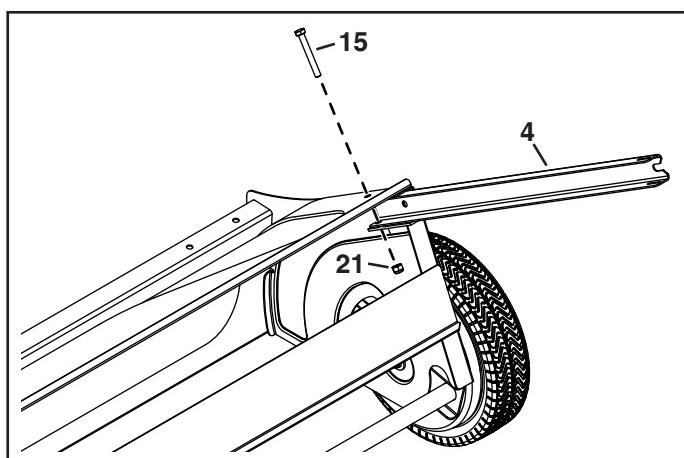

FIGURE 1
- Slide the bag arm channels (4) into the sweeper housing as shown in figure 1. Secure them to the sweeper housing with a 5/16-18 x 2-1/2" hex bolt (15) and 5/16" nylock nut (21). Tighten bolt until secure. **Do not over tighten.**